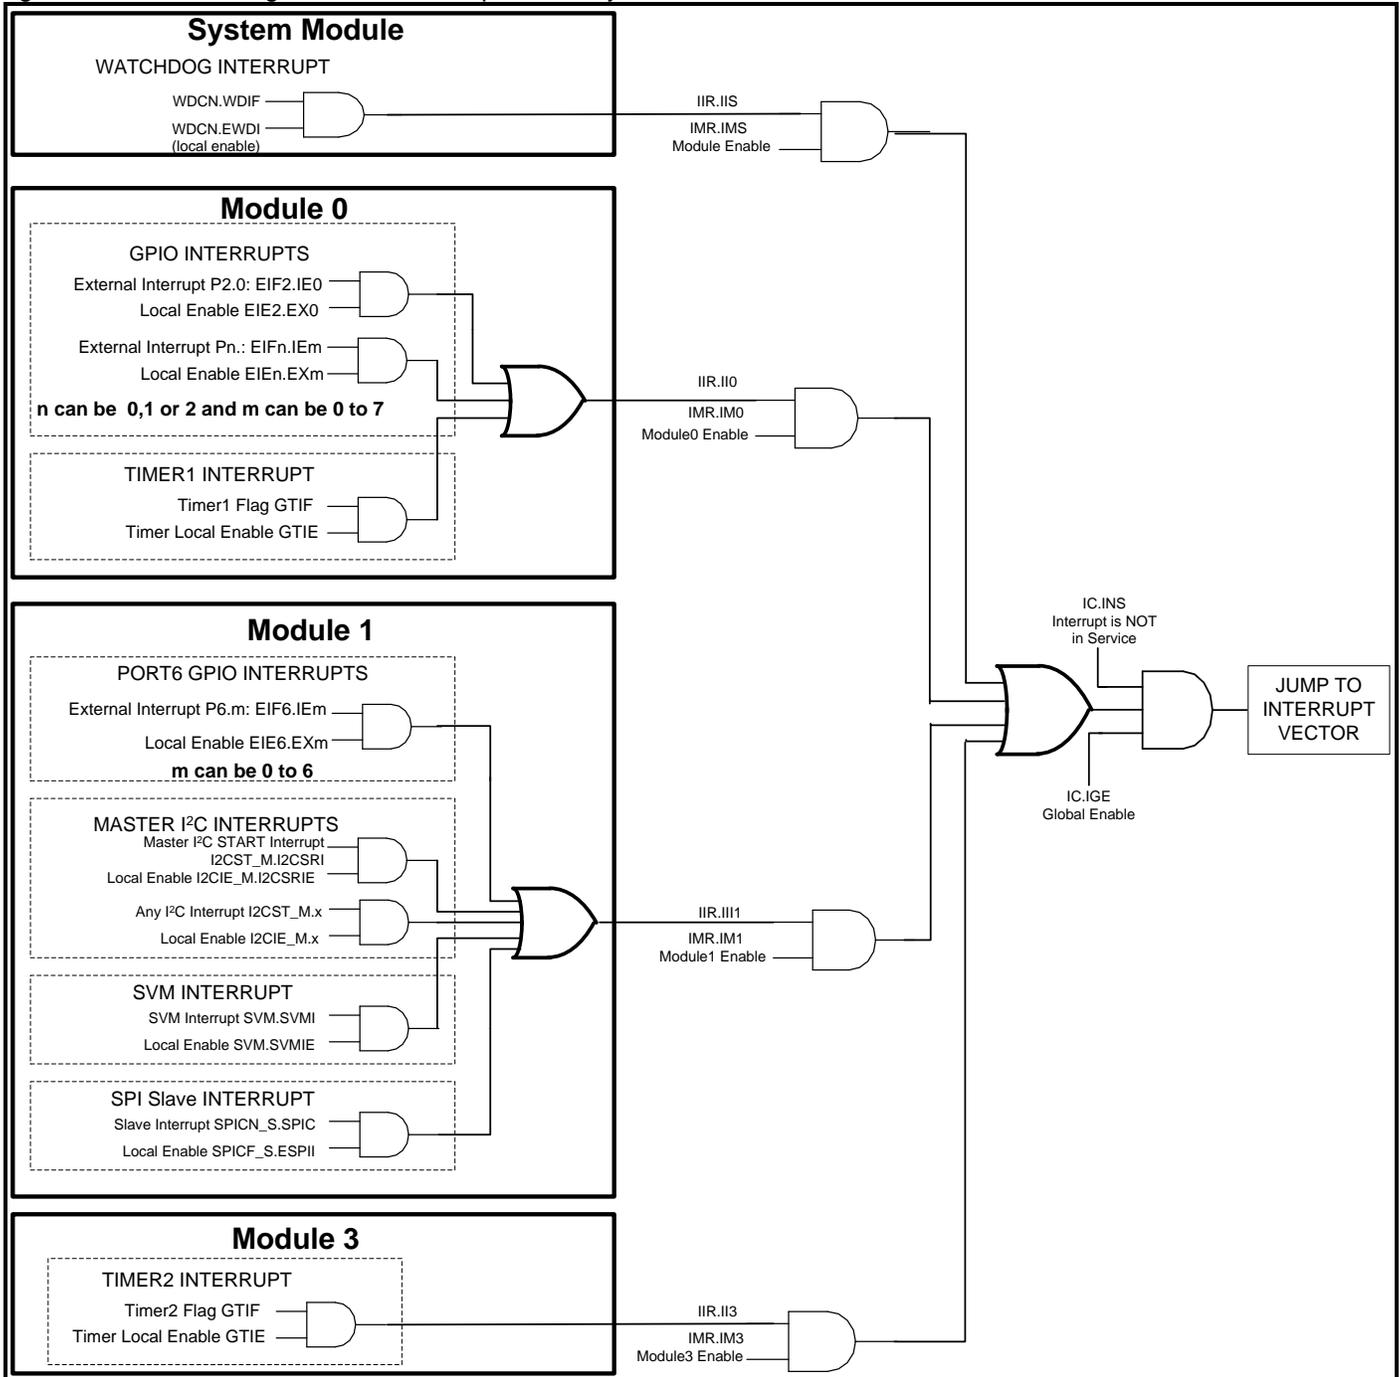

Figure 5-1: Interrupt Hierarchy
The DS4830 provides a single, programmable interrupt vector (IV) that can be used to handle internal and external interrupts. Interrupts can be generated from system level sources (e.g., watchdog timer) or by sources associated with the peripheral modules. Only one interrupt can be handled at a time, and all interrupts naturally have the same priority. A programmable interrupt mask register allows software-controlled prioritization and nesting of high-priority interrupts. Figure 5-1 shows a diagram of the interrupt hierarchy.
Note: Some of the DS4830 module and peripheral interrupts sources are shown in the Figure 5-1 interrupt hierarchy diagram. Please refer the corresponding sections of this user's guide for more detailed information about all of the possible interrupts.
The local interrupt-enable bit for a particular source is in one of the peripheral registers associated with that peripheral module, or in a system register for any system interrupt source. Between the global and local enables are intermediate per-module and system interrupt mask bits. These mask bits reside in the Interrupt Mask system register. By implementing intermediate per-module masking capability in a single register, interrupt sources spanning multiple modules can be selectively enabled/disabled in a single instruction. This promotes a simple, fast, and user-definable interrupt prioritization scheme. The interrupt source-enable hierarchy is illustrated in Figure 5-1 as well as Table 5-1.